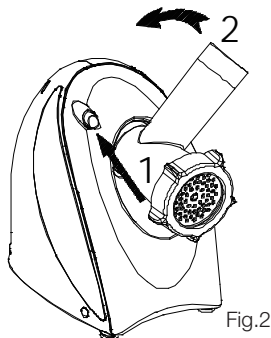

Fig.2
2. Assemble the blending pole support into the motor unit. Press the lock button with thumb one hand (see arrow 1 of fig.2), and hold the blending pole support with the other hand, insert it into the hole of the unit and turn it anti-clockwise until it cannot move any longer (see arrow 2 of fig.2). Release the lock button, the blending pole support is fixed on the motor unit, and the appliance can be used now.